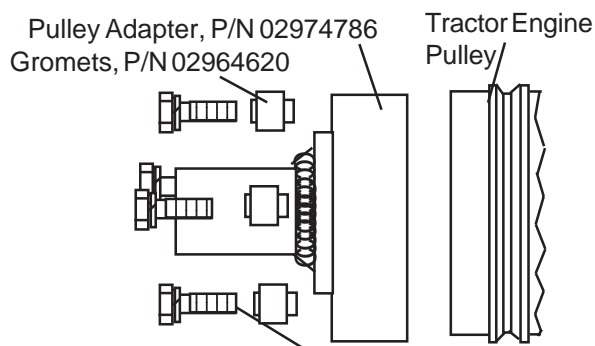
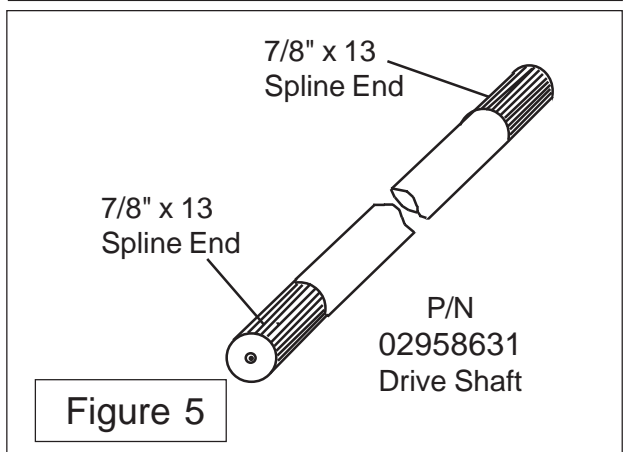

Figure 4
Figure 5
6. Start The Rear frame Rail Bolts. The bolts in the rear of the sub-frame should be started but not tightened, this will allow the frame to be moved around to align the front bolts (See Figure 4).
7. Frame Rail Front Mounting Bolts. Install the front frame rail mounting bolts (See Figure 5). The front sub-frame bolts will bolt to the front bolster behind the tank. There are 4 2" log spacers that are installed between the frame and bolster. Do not tighten the bolts until all the bolts are installed in frame rail. Leave floor jack and/or stands under frame rail until completely mounted (See Figure 5).
9. Tighten Front Frame Rail Bolts. After all bolts are installed into the frame rail they can be tightened. Make certain when tightening that none of the bolts are in a bind when tightening frame to bottom or front of tractor, DO NOT force the frame rail up if it will not go up smoothly (See Figure 5).
6. Install Pump Drive Shaft (P/N 02958631). Coat the pump Drive Shaft splined end with a anti-seize compound (See Figure 6). Insert the drive shaft under the radiator and into the splined pulley adapter. NOTE: Some tractors may have rubber under radiator, if this rubber touches the driveshaft it will have to be trimmed to clear. The rubber under the radiator can be trimmed with a knife or in extreme case with a hole saw, The driveshaft must clear any objects by a minimum of 1/16" and not allowed to rub. The driveshaft has a 7/8" X 13 spline on both ends and can be installed in either direction (See Figure 5 & 6).
2. Assemble Magnetic Switch Activators. This magnetic switch activator has a magnet inside and a cover that must be installed (See Figure 4). There are brackets that these bolt to. With dual wings there is a LH and RH bracket. Bolt the Magnetic activators to the brackets (See Figure 5) LH Bracket Shown). Note there are two sets of mounting holes. In figure 5 the set that have the bolts through them is used to shut wing off at 45 degree up. If the other set of holes are used wing mower will shut off at 90 degrees up. The 45 degree setting is recommended for standard applications.